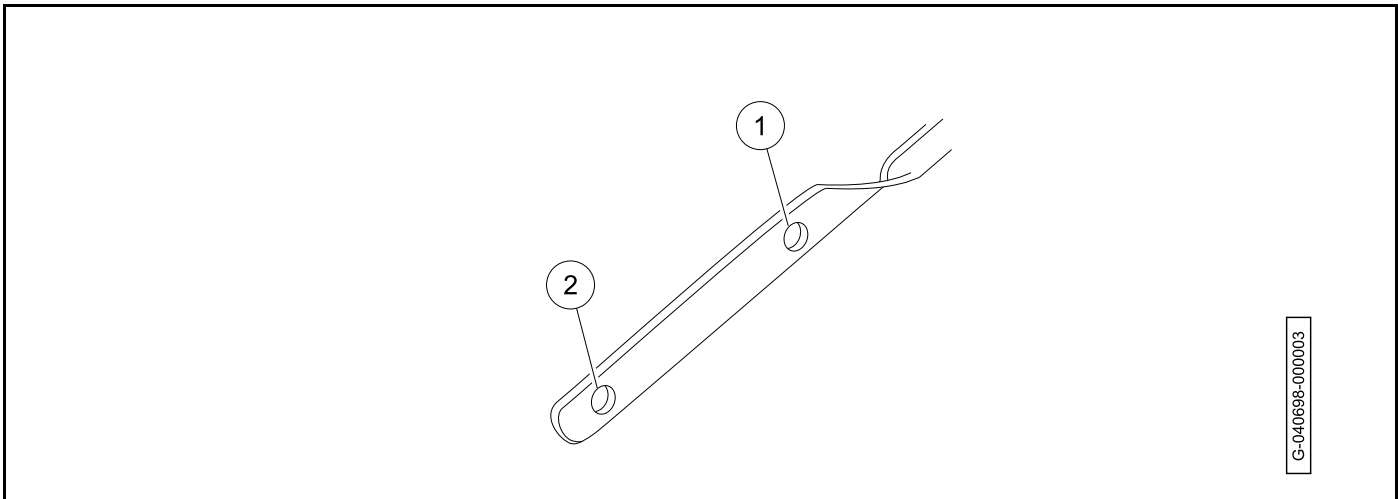

Figure 10-8 Dipstick Indicators
10. Make sure that the oil level is between the maximum (1) and minimum (2) indicators (**Figure 10-8, Page 10-14**).